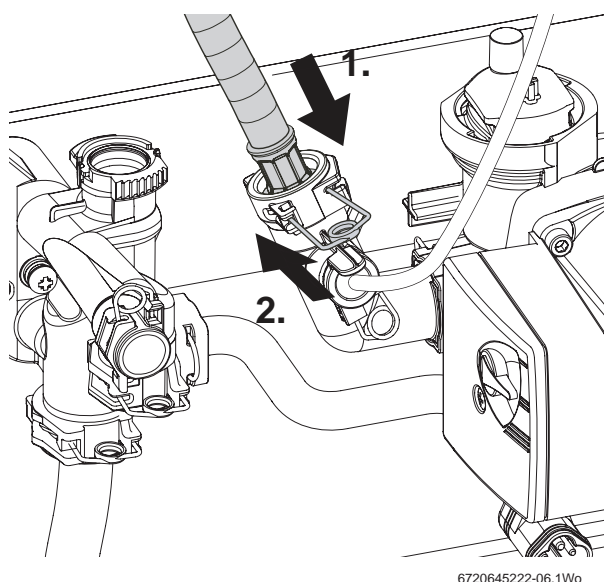

Fig. 35 Expansion vessel hose connection
1. Refer to figure 35 and insert the expansion vessel flexible pipe it to the fitting on the pump.